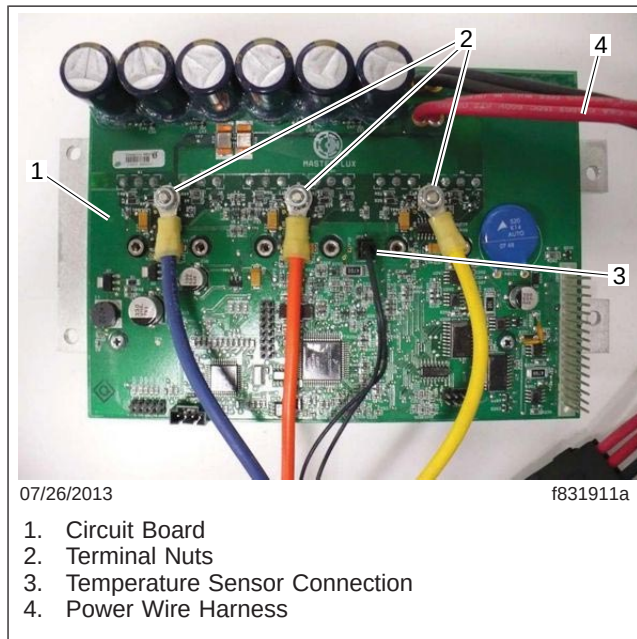

Fig. 9, Circuit Board Wiring
23. Remove the terminal nuts, and disconnect the three phase-wires from the circuit board terminals as shown in Fig. 9.
34. Connect the three phase-wires to the new circuit board terminals as shown in Fig. 9. Install the blue wire on the left terminal, the orange wire on the middle terminal, and the yellow wire on the right terminal. Carefully tighten the nuts 10 lbf-in (113 N·cm). Do not over tighten or under tighten.